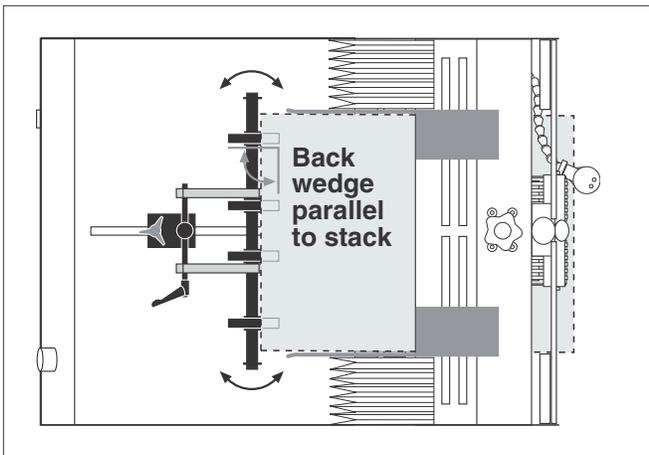

Figure 2-13. Adjusting Back Wedge for Parallel
5. Make sure the edge of the back wedge assembly is parallel with the edge of the material stack (Figure 2-13). Adjust as required and then tighten wing-nut.